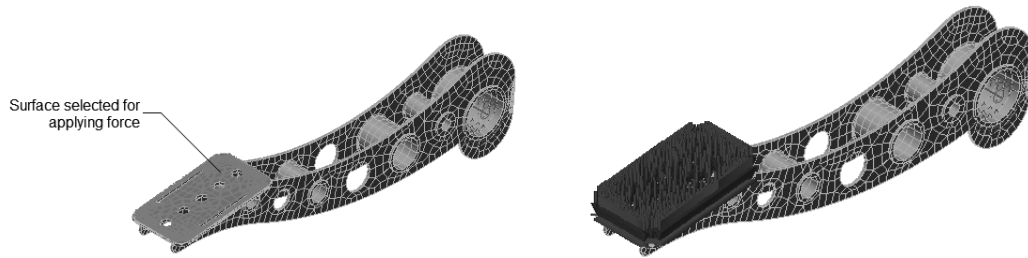

Figure 8-89 Surface selected for applying force **Figure 8-90** The arrows representation of force applied
- Select the top planar surface of the model for applying the force of 500 N by clicking the left mouse button, refer to Figure 8-89.